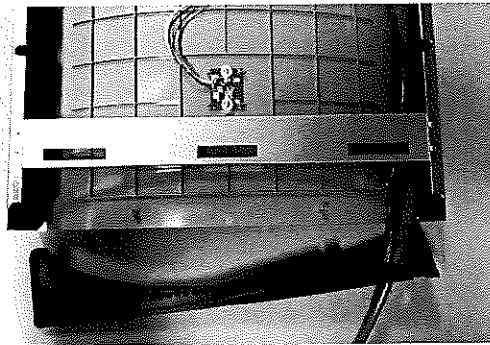

Fig. 10
- 5) Feed power cord and 3/8" water line through hole in tower/basin gasket (See Fig 10).